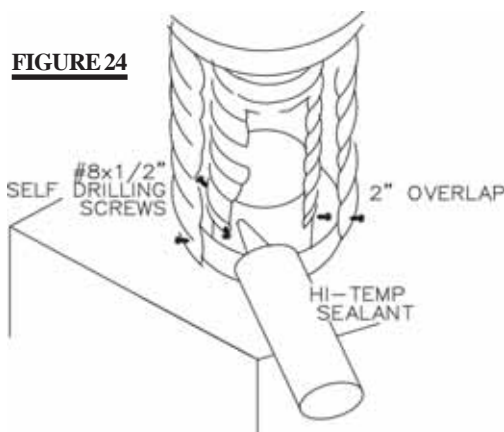

FIGURE 24
1. Install the 4 inch diameter aluminium flexible liner to the fireplace. Secure with 3 screws and flat washers. Seal the joint and screw holes using the high temperature sealant provided. **FIGURE 24.**